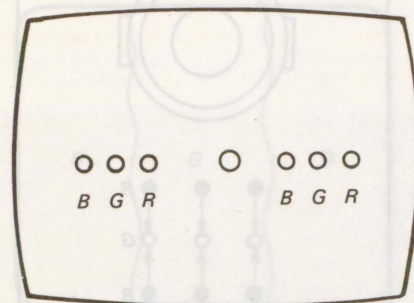

Fig. 3-9. Underconvergence
- a. If misconvergence is as shown in Fig. 3-9: